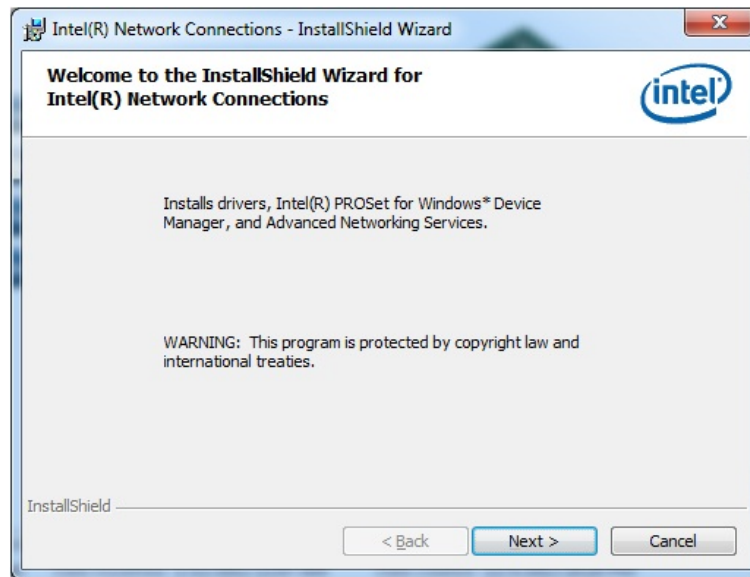

Figure 6-12: LAN Driver Welcome Screen
Step 7: The **Welcome** screen in **Figure 6-12** appears.